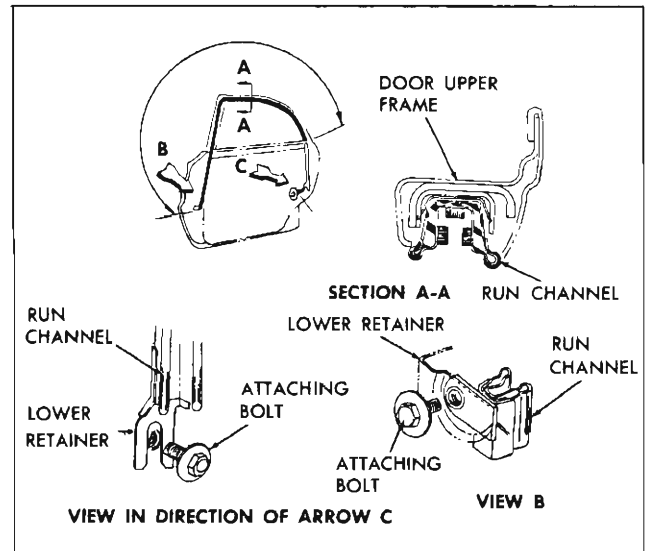

Fig. 58—Rear Door Window Glass Run Channel—69 Styles
3. Remove front and rear attaching screws from hinge and lock pillar facing of door inner panel (fig. 58).